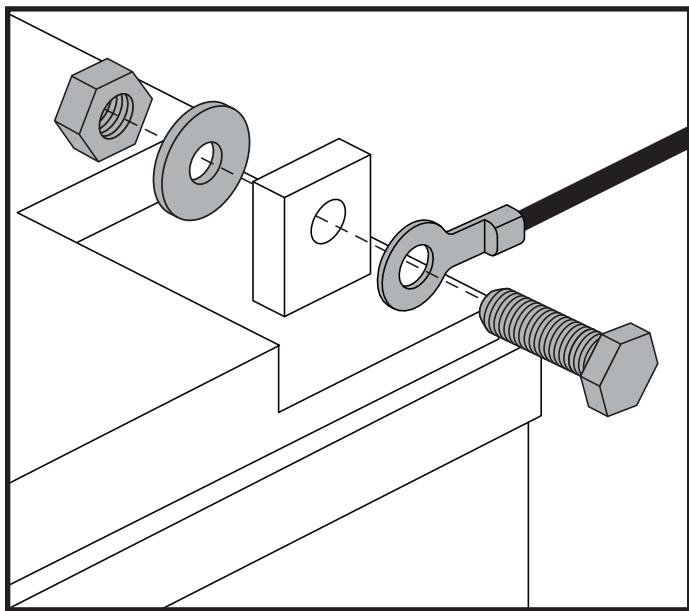

Figure 11. Battery Terminal Hardware - Configuration 1
4. Disconnect the battery cables from the battery terminals by sliding back the terminal boots and unscrewing the nut from the bolt. See **figures 11 and 12**.